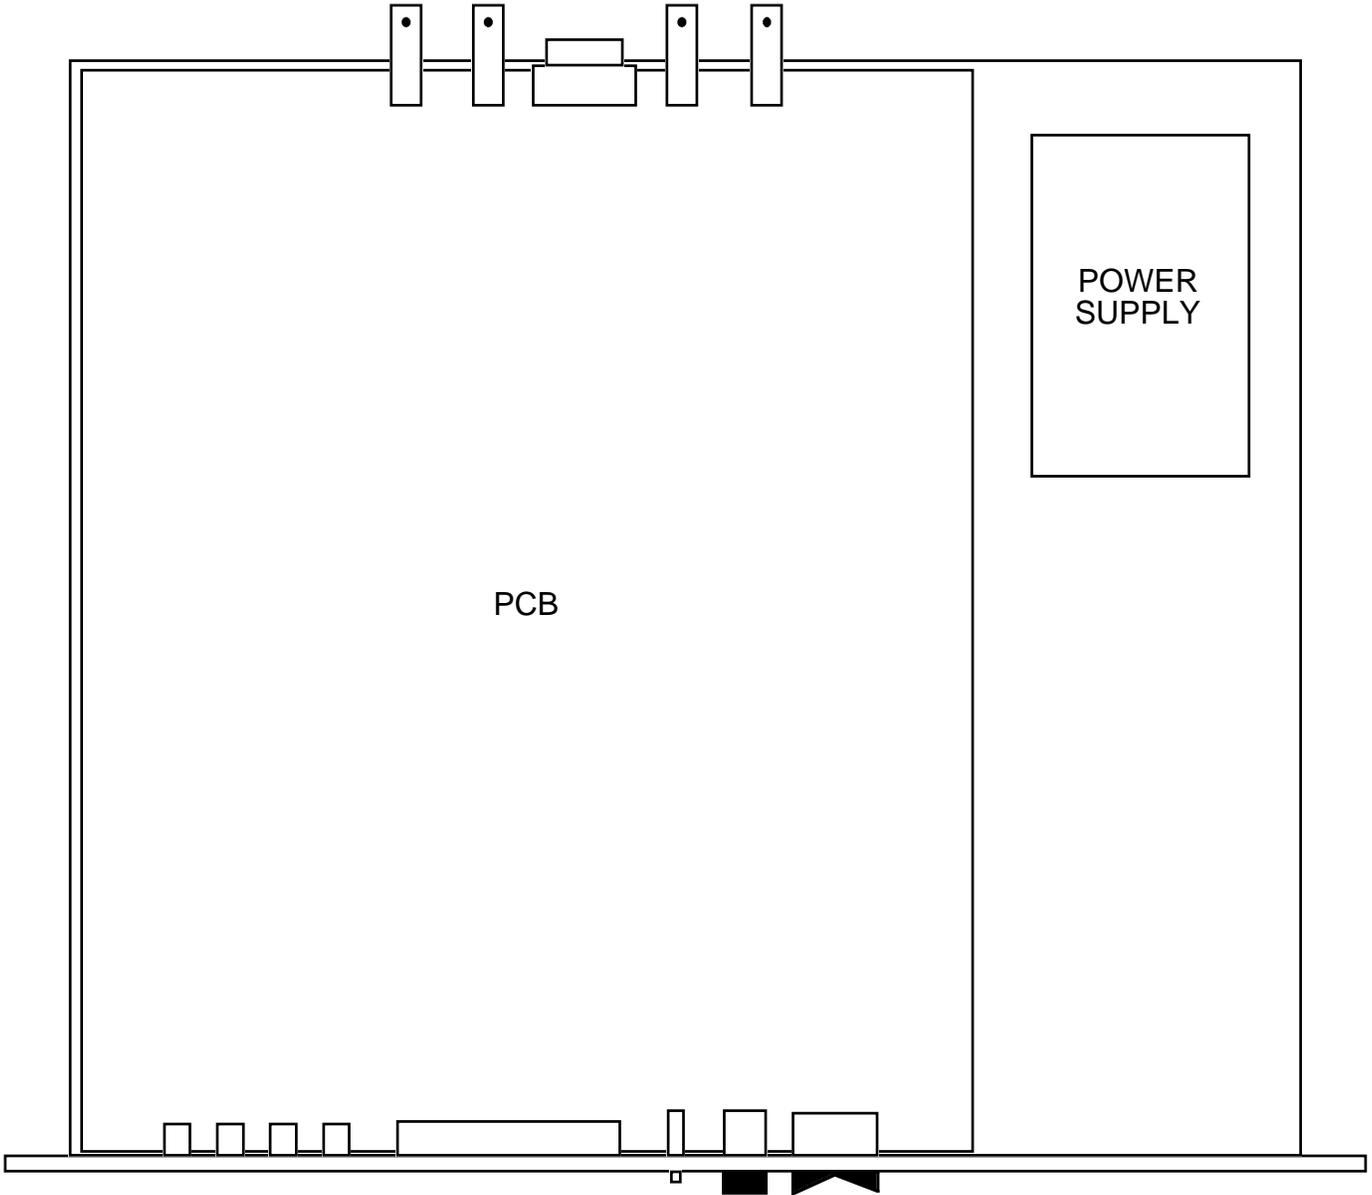

FIGURE 2.0 2083-914A Mechanical Assembly
2.1 Mechanical - The 2083-914A consists of one RF/Controller PCB housed in a 1 RU (1 3/4 inch high) by 16 inch deep chassis. A switching, ± 12 , +24, +5 VDC power supply provides power for the assemblies. The 2083-914A can be secured to a rack using the 4 holes on the front panel but must be supported by a bracket on the bottom. Figure 2.0 shows how the 2083-914A is assembled.